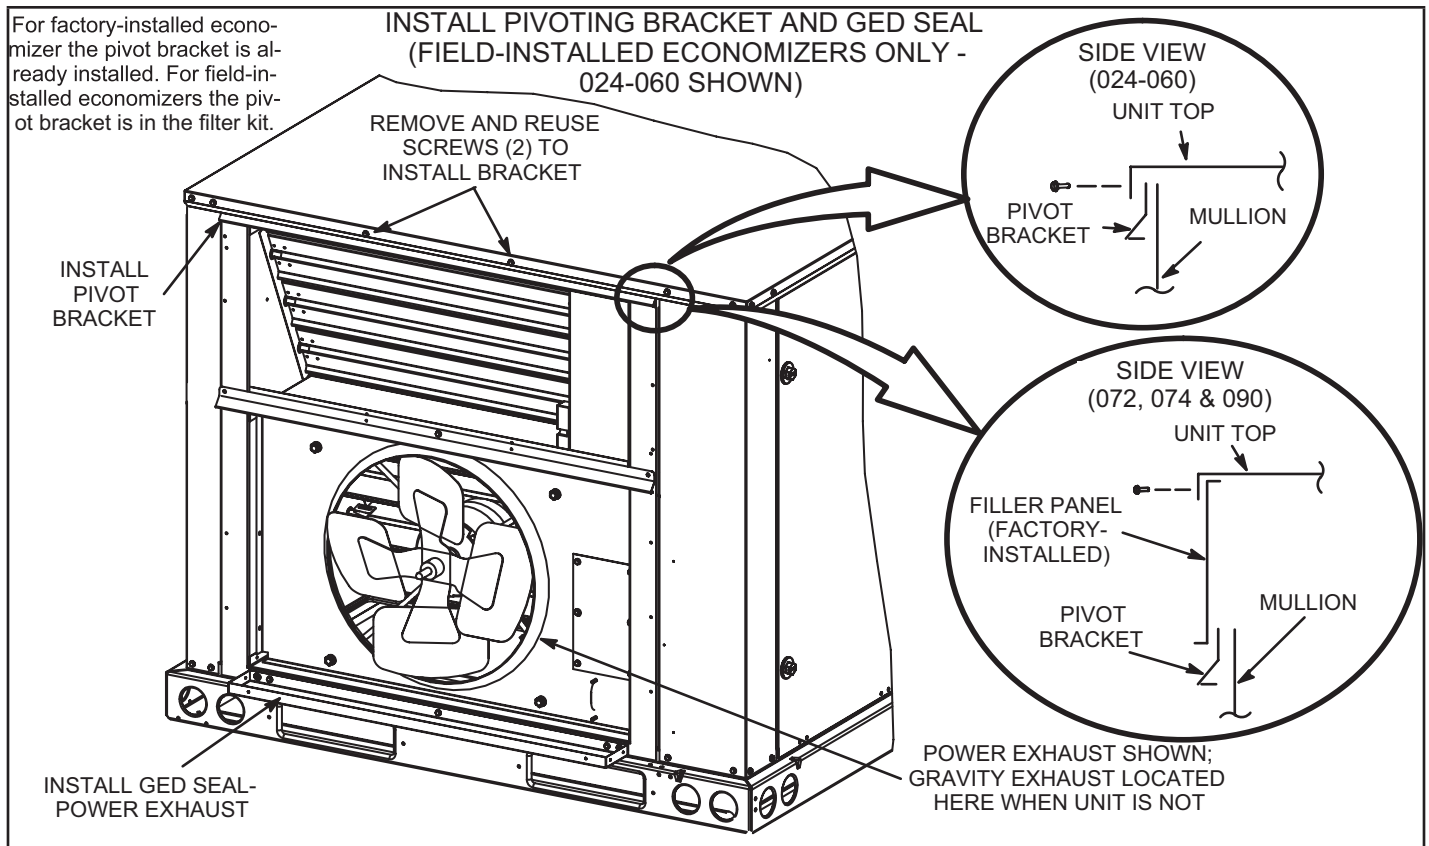
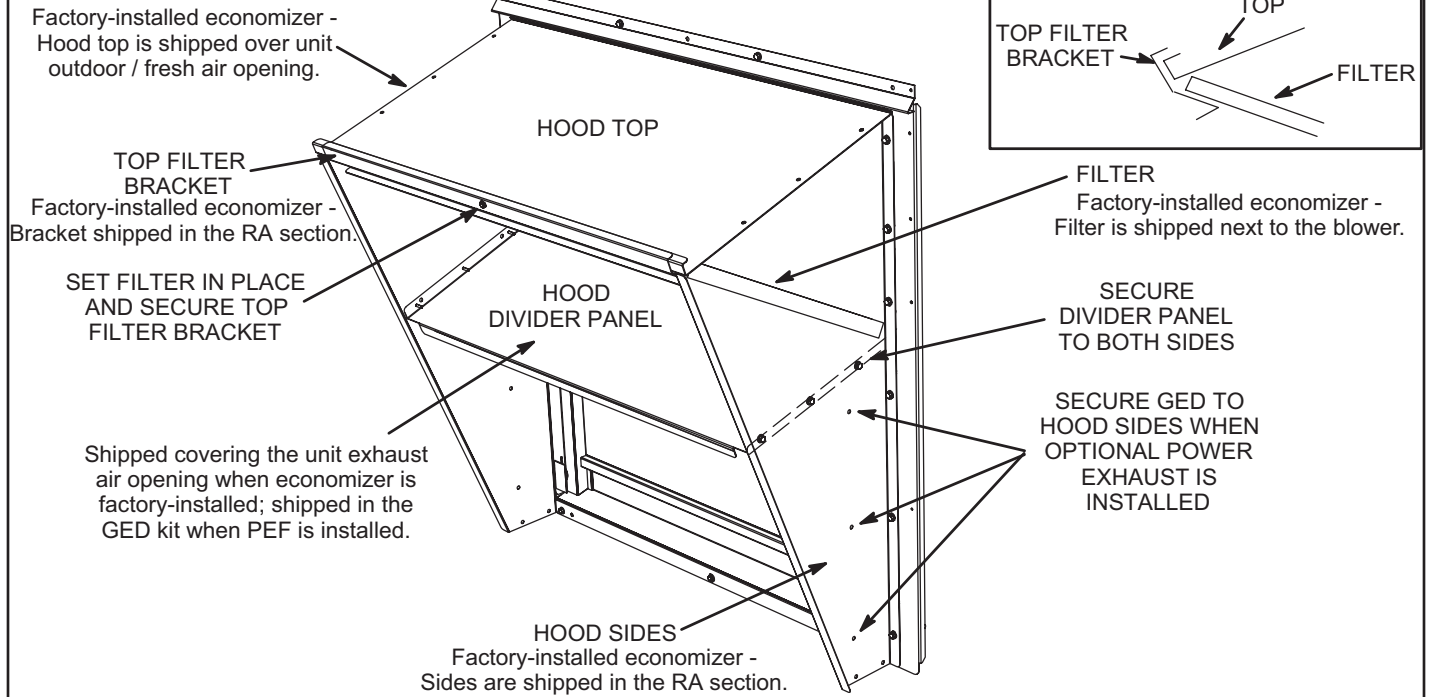

FIGURE 7
FIGURE 9
- 2 - Install the power exhaust fans and GED seal in the unit. See FIGURE 7. See the next section to install the outdoor/exhaust air hood. Install the GED in the lower/exhaust hood. See FIGURE 9.
- 2 - Install pivot bracket as shown in FIGURE 7.
- 3 - Assemble hood as shown in FIGURE 9. Slide top of hood into the ends of pivot bracket. Install top filter bracket after filter is in place.